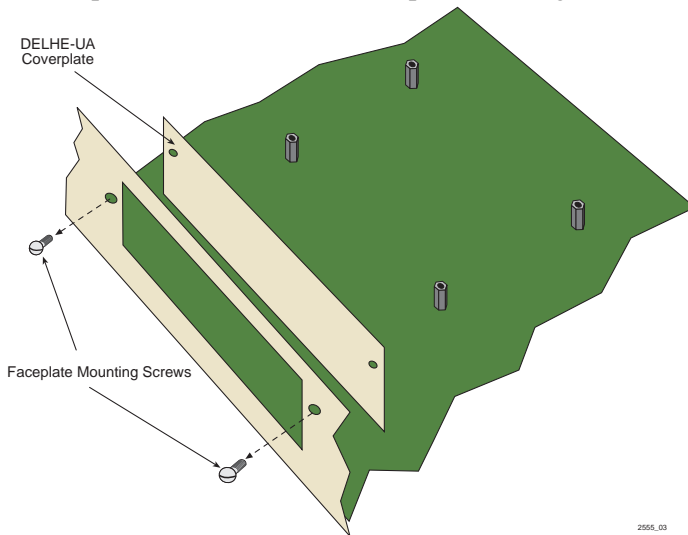

Figure 2-3 Removing the HSIM Coverplate
5. Remove and save the two faceplate mounting screws securing the HSIM coverplate and remove the coverplate. See Figure 2-3.